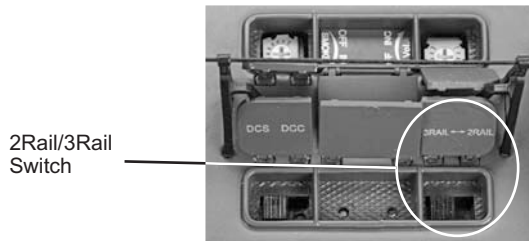

Figure 5: 2-rail / 3-rail switch
2. Change the power input from 3-Rail to 2-Rail as seen in figure 5 (above).